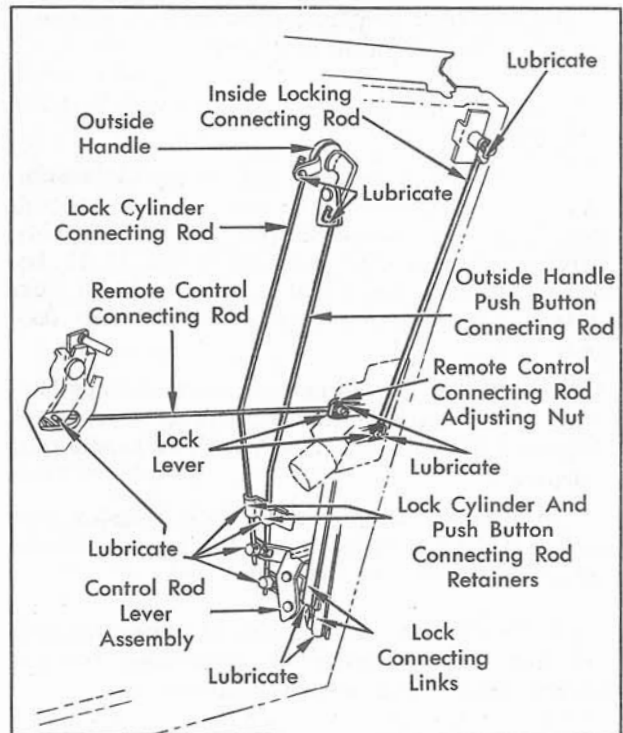

Fig. 17-18 Front Door Locking Mechanism
3. With a screw driver or suitable tool carefully remove (snap off) lock cylinder and push button connecting rod retainers, Fig. 17-18, from door lock pillar.
6. To install front door outside handle assembly reverse removal procedure. If connecting rods have been removed from handle assembly, install rods to handle as shown in Fig. 17-18, before installing assembly to door. Make sure gaskets are installed between handle and door outer panel.
8. Lubricate attaching points of connecting rods and frictional surfaces of connecting rod retainers, Fig. 17-18, with Lubriplate.
(17) Front Door Outside Handle Disassembly and Assembly
2. Through large access hole disengage spring clip and detach inside locking connecting rod from lock lever, Fig. 17-18.
3. Disengage spring clips and detach lock connecting links from control rod lever assembly, Fig. 17-18. Disengage spring clips and detach remote control connecting rod and inside locking rod from lock.
7. Lubricate attaching points of lock connecting links and rods with Lubriplate. Also lubricate lock cylinder connecting rod and push button connecting rod retainers. Refer to Fig. 17-18.
2. Through large access hole disengage spring clip and detach remote control connecting rod adjusting nut from lock lever, Fig. 17-18.
4. Lubricate attaching points of lock connecting links and rod with Lubriplate. Also lubricate frictional points of lock cylinder and push button connecting rod retainers, Fig. 17-18.